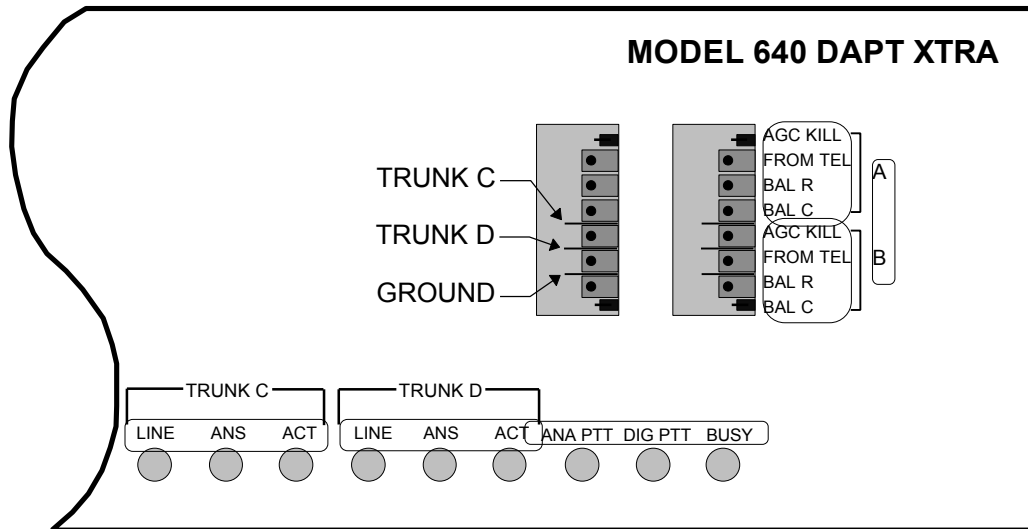

Figure 51. Trunk Card Level Adjustments
- ❑ 7. Connect the voltmeter to the appropriate pins that extend off the sides of the potentiometers. Use the top and bottom pins to adjust trunk A/C. Use the middle and bottom pins to adjust trunk B/D. Refer to Figure 51.
- 3. Connect the voltmeter to the appropriate pins that extend off the sides of the potentiometers. Refer to Figure 51.